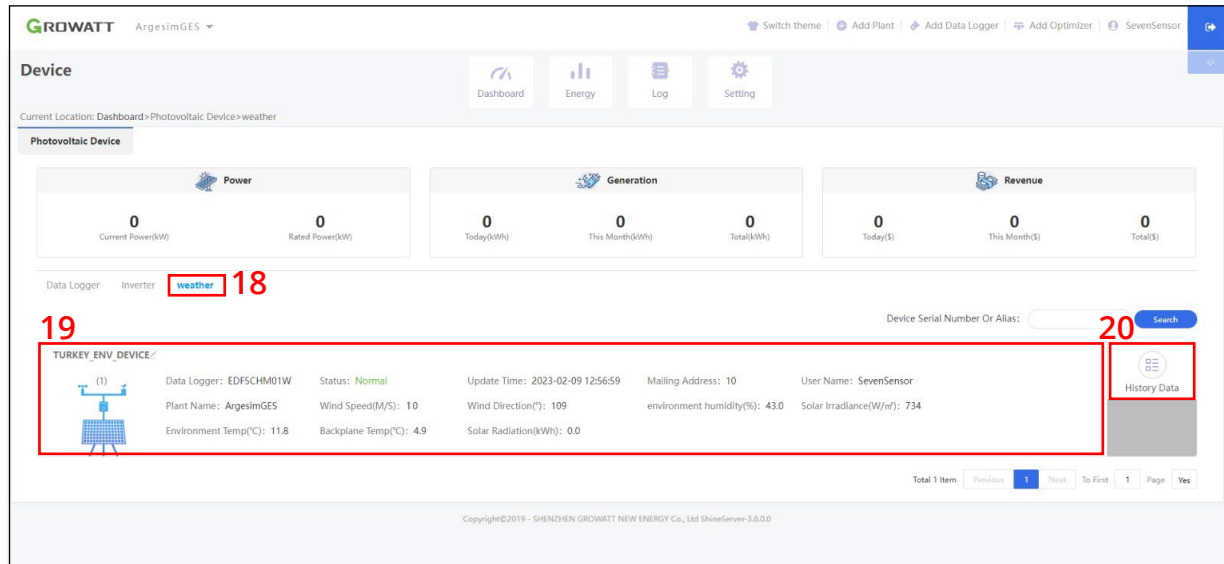
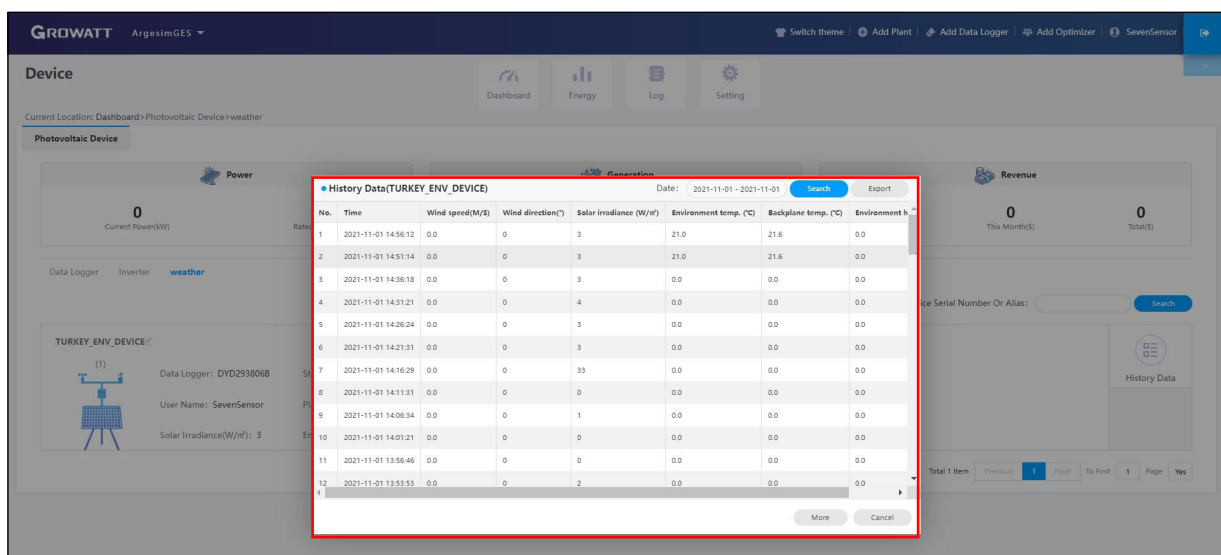

Figure 11: Added Weather Station
Figure 12: Weather Station History Data
Step 18 and 19 : In "Weather" menu, all meteorological data will appear as shown in Figure 11.
Step 20 : Click on "History Data" to view the history of meteorological data as shown in Figure 11. You can watch the old data of sensors as shown in Figure 12.